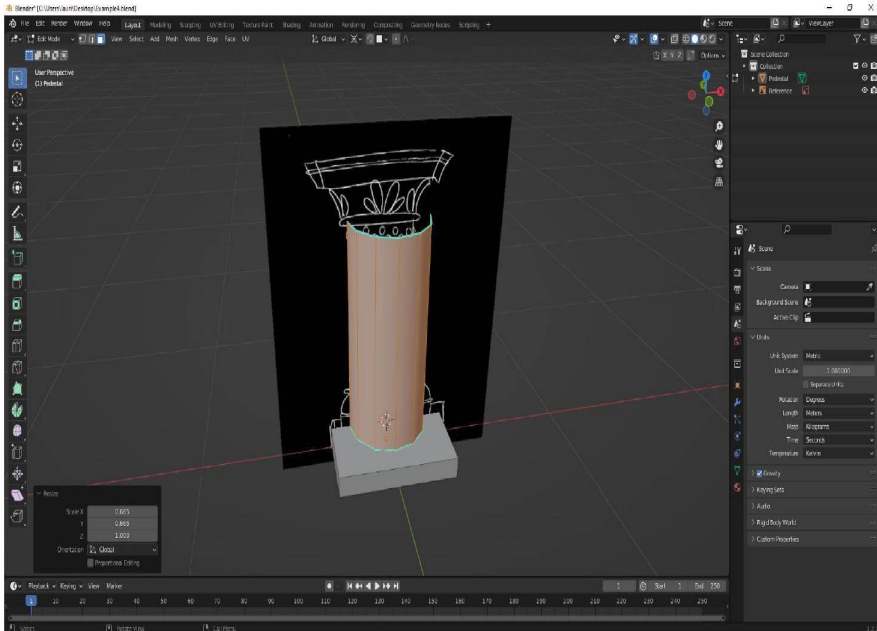

Figure 4.20: Cylinder sub-object primitive scaled up in the z and down in the x and y axes
7. To do this, first press S, then **Shift + Z**. Scale the cylinder approximately 0.6 in the x and y axes as shown in *Figure 4.20*, but don't worry too much about matching the reference perfectly, since it is lopsided. Hand drawn reference images don't need to be followed precisely but can still provide useful landmarks.